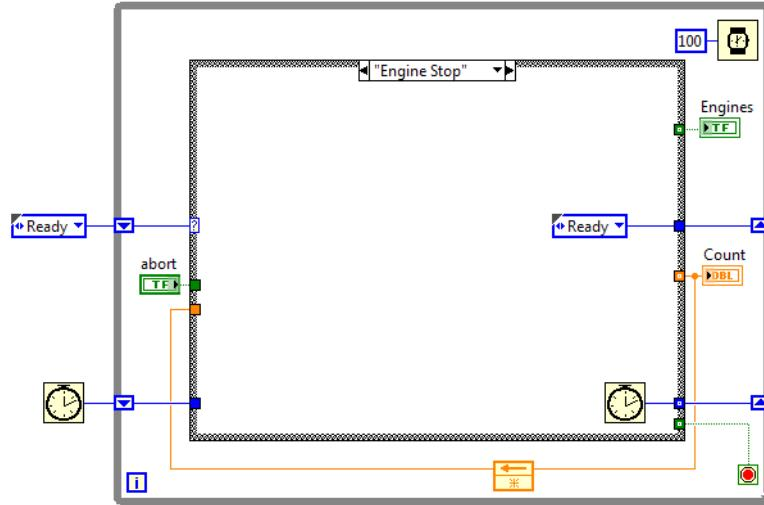

FIGURE E.13 The Engine Stop state with a reset of the 10 second timeout.
6. We have one last step. The Engine Stop state transitions to the Ready state. When we do that, we want to re-start the 10 second timeout. So read the millisecond clock and feed that new value to the shift register, as shown in Fig. E.13.